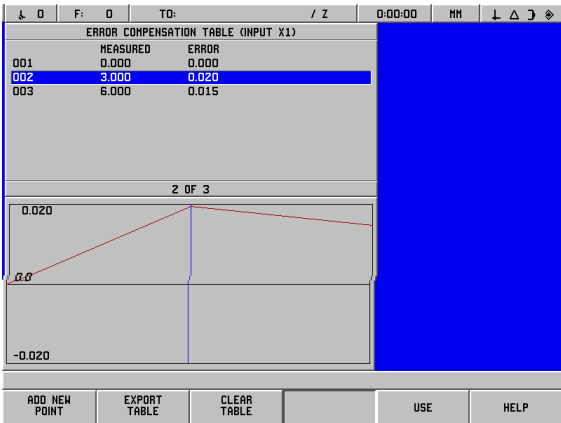

Fig. II.13 Non-linear error compensation form
- The graph shows a plot of a translation error (reference - measured) vs. measured value. The graph has a fixed scale. As the cursor is moved through the form, the location of the point on the graph is indicated with a blue vertical line. See Fig. II.13.